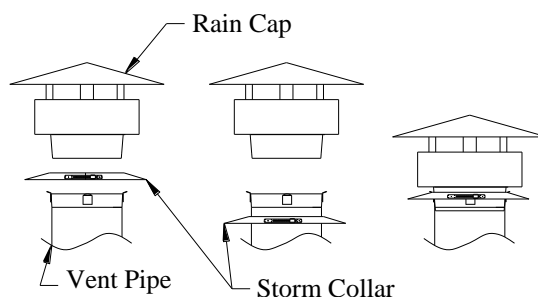

Fig 19. (Rain Cap)
2. Depending on the type of Storm Collar you have, loosen either the worm gear or the bolts on the Storm Collar and slide the collar down over the pipe (See Fig. 19).